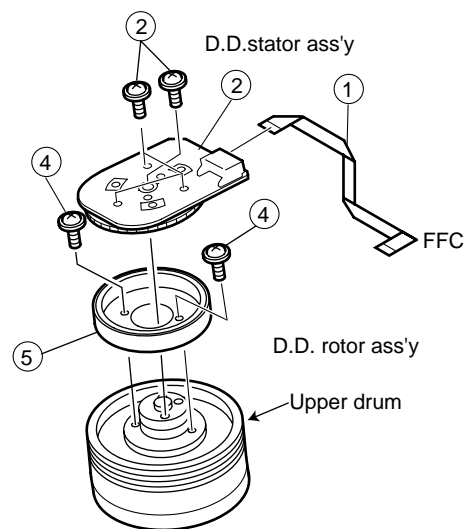

Figure 4-33.
Move the A/C head with the X value adjustment gear driver (JiGDRiVER-6) by the method shown in Figure 4-33, and adjust the A/C head so as to get the maximum ATR signal waveform. (Note: When the A/C head is adjusted, adjust so that the maximum ATR signal waveform is obtained nearest the position of initial setting made in 4-15.)
- ③ Move the A/C head with the X value adjustment gear driver by the method shown in Figure 4-33, and adjust the A/C head so as to get the maximum ATR signal waveform. (Note: At this time adjust so as to get the maximum ATR signal waveform nearest the A/C head position which has been set in case of X value rough adjustment as stated in 4-17, 3- ②.)
- ④ Adjust the playback switching point (Refer to the electric adjustment method.)
- ⑤ Playback the self-picture-recorded tape, and check the flatness of ATR signal waveform and sound.